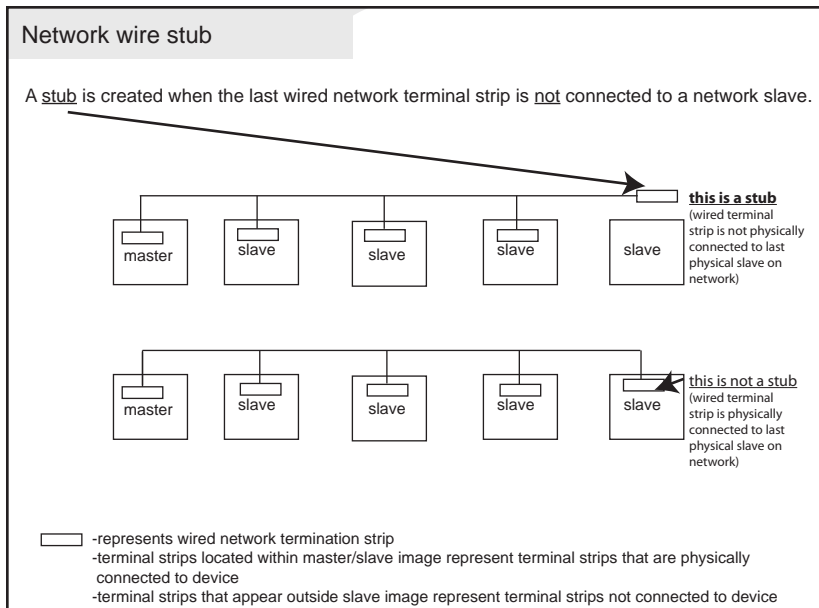

Figure 3.26
- \* A stub is created when the last wired network terminal strip is not connected to a network slave - figure 3.26.
- \*\*A stub is created when the last wired network terminal strip is not connected to a network slave - figure 3.26.